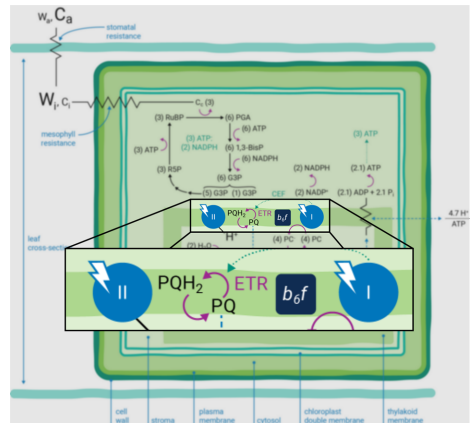

Figure 3. Photosystems I (right) and II (left), are pigment binding protein complexes where the leaf absorbs light.
Leaves principally absorb light within the visible region (mostly red and blue) of the electromagnetic spectrum (5). Light absorption, which powers photosynthesis (Figure 3), occurs within specialized pigment-binding protein complexes referred to as photosystems I and II (PSI and PSII) (6). These photosystems are localized within the chloroplast thylakoid membranes (7) and they function in series to facilitate linear electron transfer (*ETR*; $\mu\text{mol electrons m}^{-2} \text{s}^{-1}$). Linear *ETR* is a proton-coupled process (8, 9) that establishes a trans-thylakoid proton motive force (*pmf*) consisting of both electric field ($\Delta\Psi$) (10) and pH (ΔpH) gradients (11).